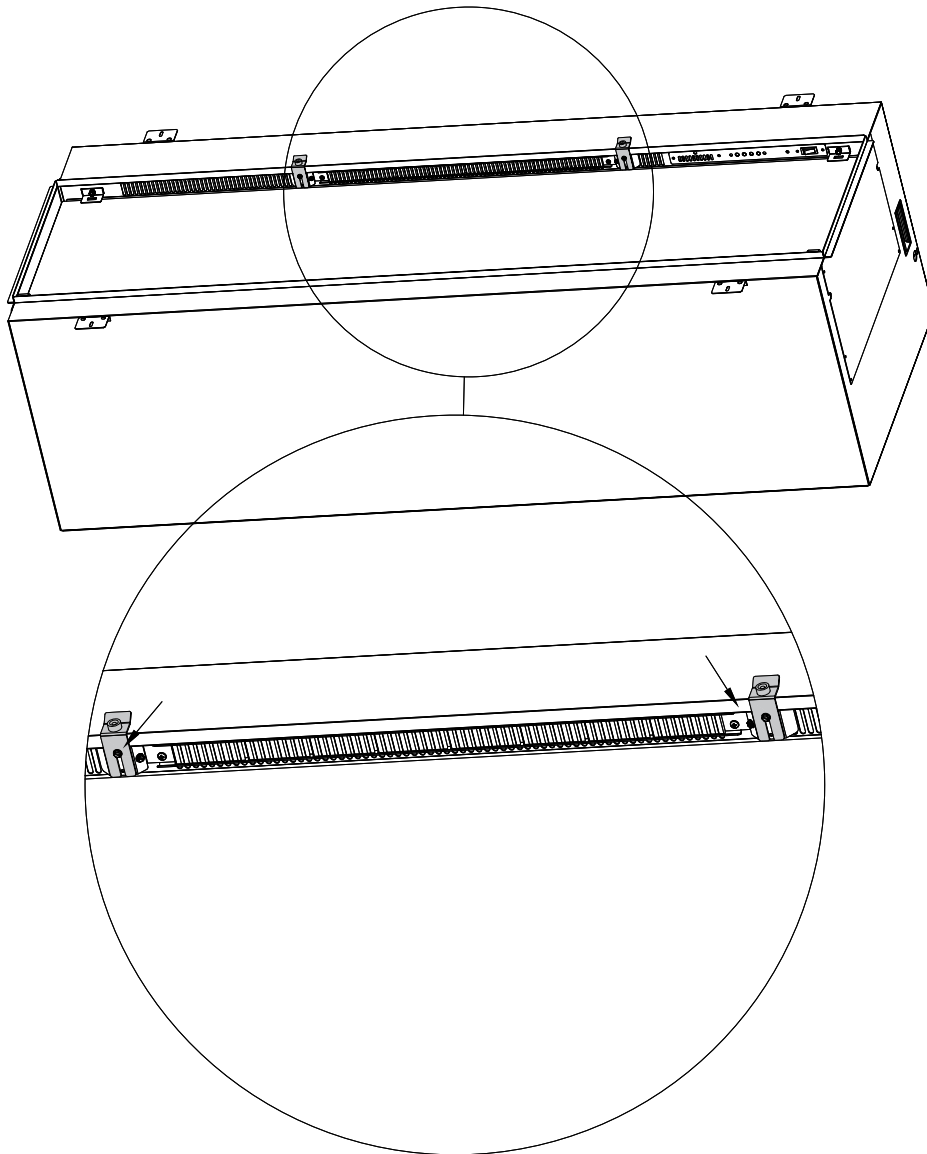

Figure 2.12 - Hanging Brackets
4. Install the magnetic hanging brackets as shown using the supplied screws. These brackets are adjustable to accommodate your finishing material. See Figure 2.12.